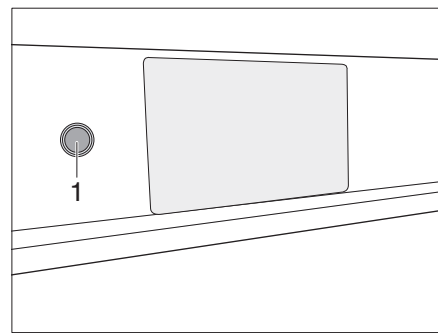

Fig. 268 Wakeup switch SCU
- Press the wakeup switch (Fig. 268,1) once to establish a connection to the EBL and the SCU.